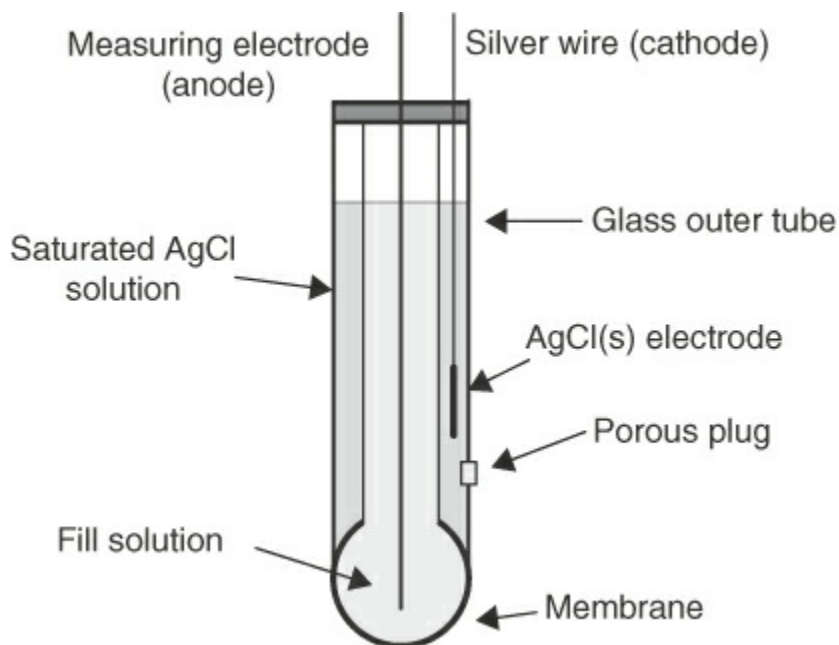

Figure 2.14 Cross section of an electrode
The biotechnology industry uses a number of special-purpose analyzers, including dissolved oxygen (DO) sensors, pH sensors, and turbidity meters. Many bioreactors use oxygen as a reactant, and DO sensors, which are electrodes, are used to ensure that the oxygen concentration is in the desired range. pH has a significant effect on most bioprocesses, and pH sensors, which are also electrodes, are used to control or monitor the system pH. A schematic of a general electrode is shown in Figure 2.14. The glass membrane on the lower end of the electrode allows certain ions from the bioreactor to enter into the fill solution. The electrode reading is